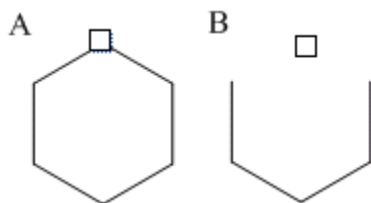

Figure 6.13 Erasing an atom
- Click any atom, as shown in Figure 6.13 A.